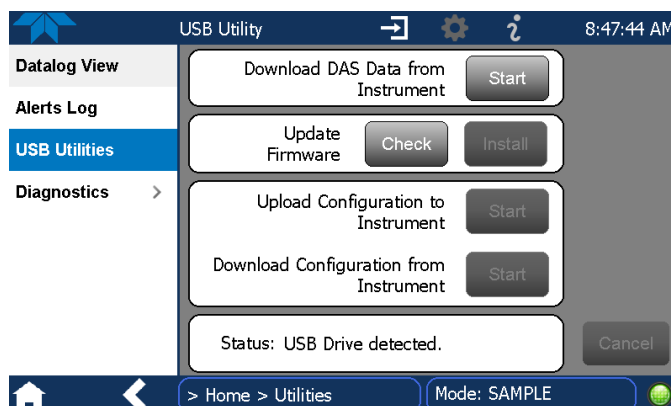

Figure 2-52. DAS Data Download
9. Insert a flash drive into a front panel USB port and wait for the Status field to indicate that the drive has been detected and available buttons are enabled (Figure 2-52).